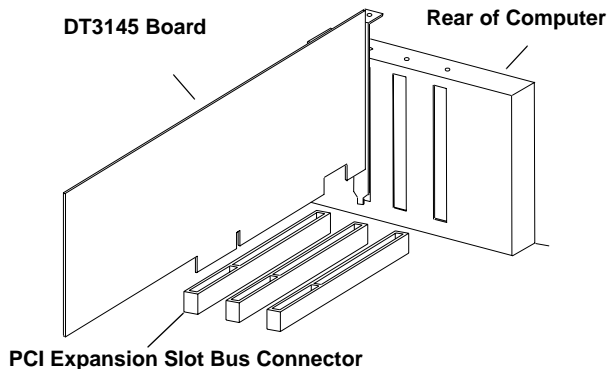

Figure 3: Inserting the DT3145 Board in the Computer
4. Position the board so that the cable connectors are facing the rear of the computer, as shown in Figure 3.